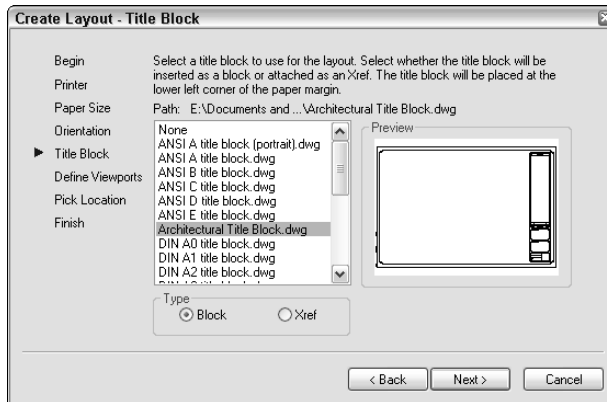

Figure 4-10:
6. Select a title block or None (see Figure 4-10), and then click Next.